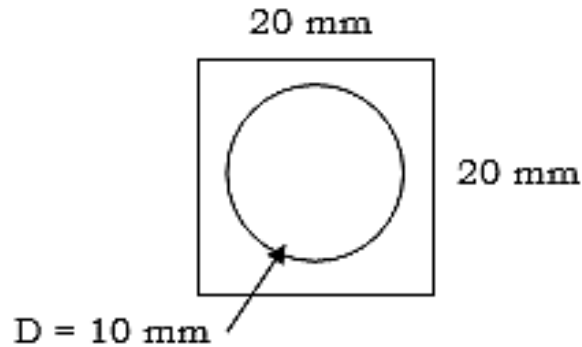

Figure 1(c)
- (c) A bar is subjected to a 20 kN tensile force at both ends. The cross-section of the bar, which includes a hollow section in the middle, is shown in Figure 1(c), given that the diameter of the hollow section is 10 mm. Calculate the tensile stress in the bar.